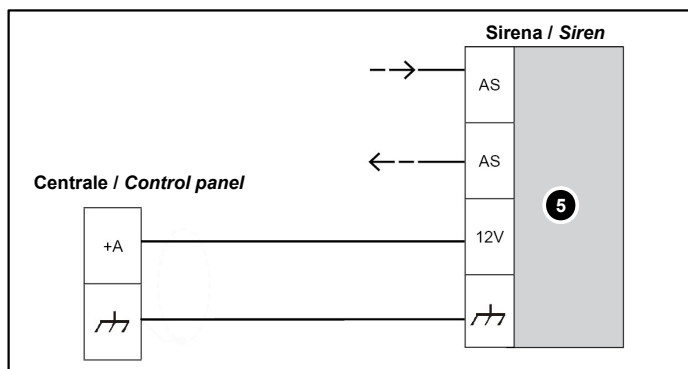

Fig. 3 - Collegamento NEMO-I / NEMO-I connection
2.4.1 NEMO-I electrical connection**Perform the following operations (fig. 3):**